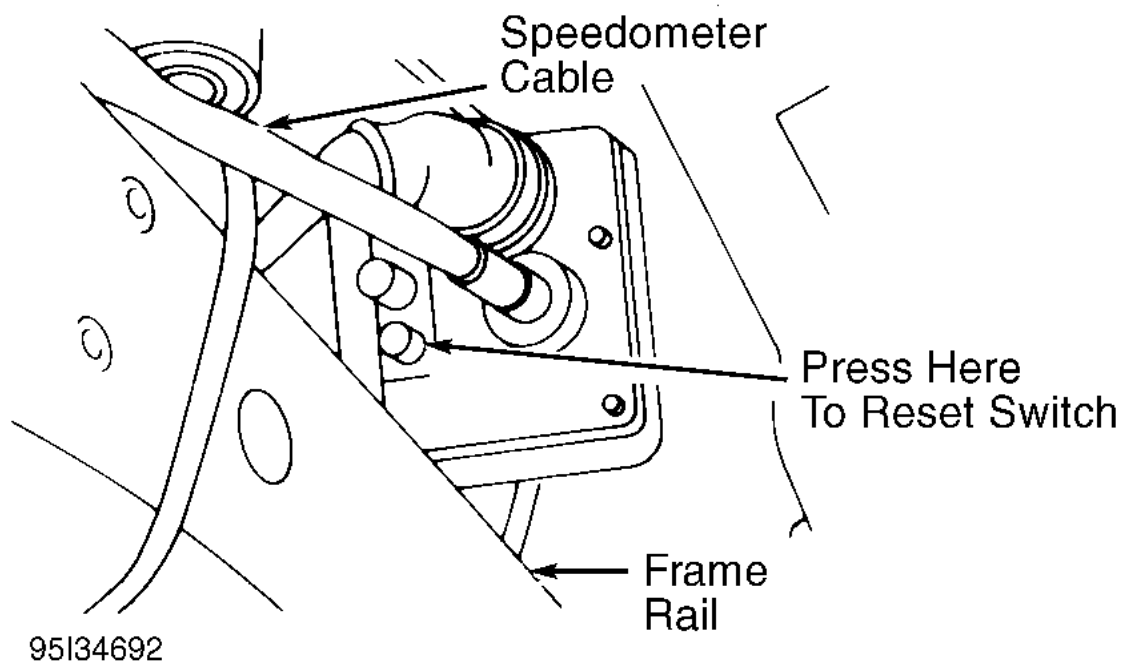

Fig. 1: Locating Oxygen Sensor Warning Light Reset Switch (All BMW Models Before 1983)
3. On all other models, trace speedometer cable to interval switch (in-line with cable, mounted on frame rail left of transmission). Press White reset button. See Fig. 1. Ensure warning light is out.